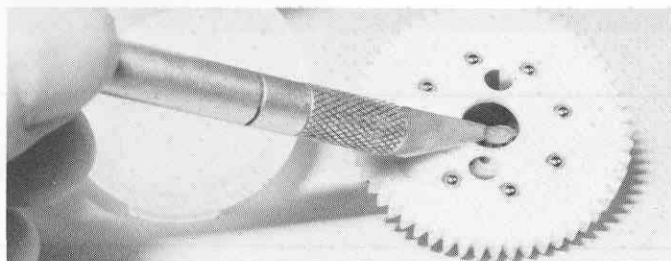

Fig. 73
□ **Fig. 73** Apply a small amount of the #6636 Associated dif lube to the center hole of the gear. DO NOT use this dif lube anywhere else on the car for metal to metal lubrication. (It's intended as a plastic to metal or plastic to plastic lubricant.)